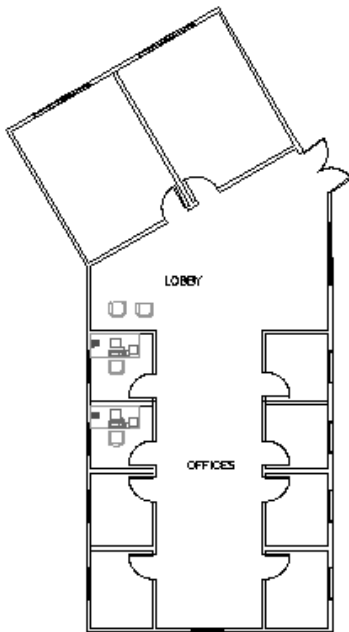

Figure 18-16: The office plan with added chairs and office furniture.
12. Choose Zoom Previous from the Standard toolbar. Save your drawing. It should look like Figure 18-16.